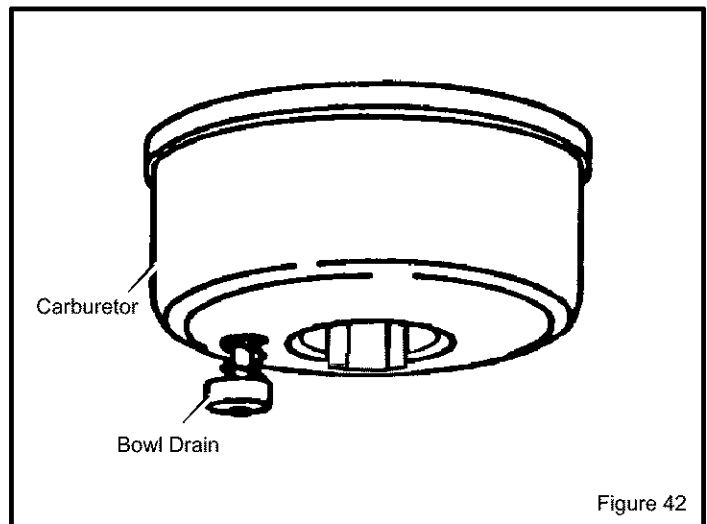

Figure 42
1. To remove gasoline, run engine until tank is empty and engine stops. Then drain remaining gasoline from carburetor by pressing upward on bowl drain located on the bottom of carburetor (see Figure 42).